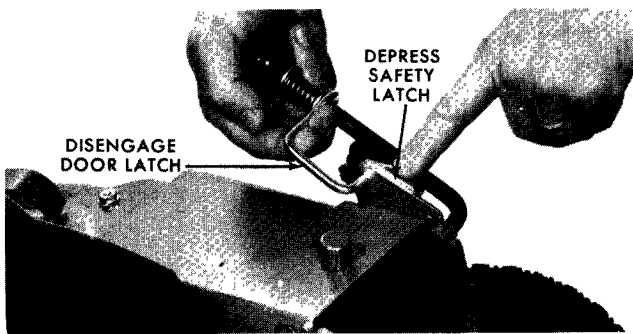

Figure 25
2. Hold the safety latch down with one hand while disengaging the door latch with the other. Move the handle to the rear latched position to open the door. See Figure 25.